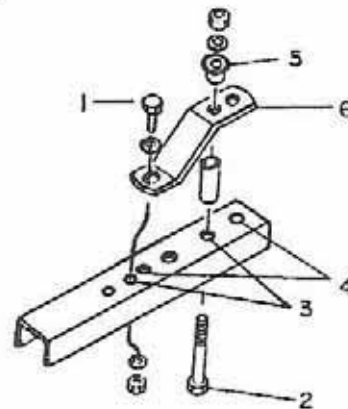

FIGURE 4
- e) Garden Tractor: Loosen the bolts (fig. 4, item 1 & 2). Be sure they are installed in the first set of holes (item 4) with the flange sleeve (item 5), the flange face up.
Lawn Tractor: Remove the hitch plate (fig. 4, item 6) and re-install loosely in the second set of holes (item 3) with the flange sleeve (item 5), the flange face down.
- c) Attach the rear portion of the subframe (fig. 4) to tractor tow hitch with the flange sleeve under the tow hitch, using bolts already installed with a flatwasher, a lockwasher and a nut on top of tractor tow hitch. Tighten securely.